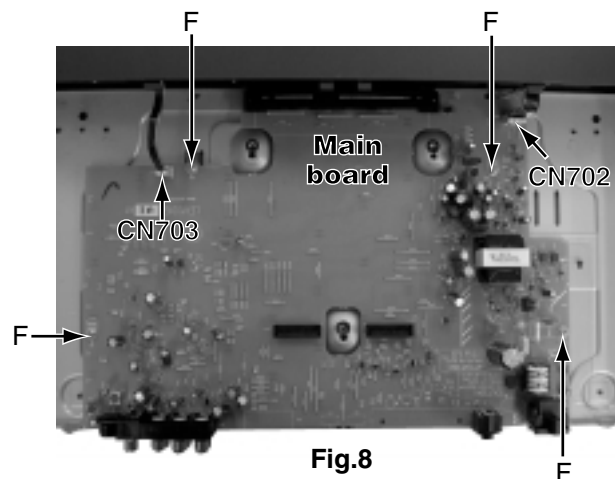

Fig.8
■ Removing the main board (see Fig.8)
(See Fig.8 and 9)